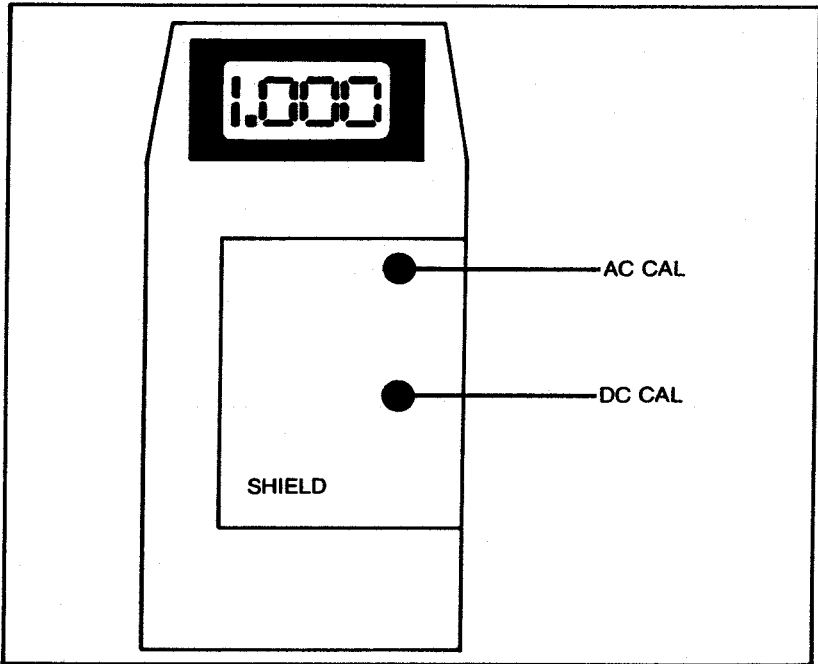

Figure 4-1. Calibration Adjustment Locations
6. All adjustments necessary to complete the calibration procedure are now accessible (see Figure 4-1).